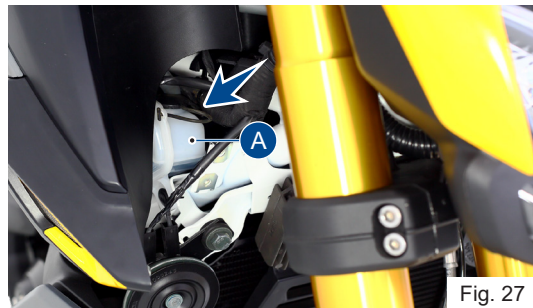

Fig. 27
- A coolant reservoir tank (A) is fitted on the right side of the motorcycle below the side panels (ref. Fig. 27).